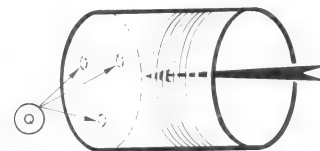

Figure 4.2.9c
- Unscrew 3 screws Q (inside coil, figure 4.2.9c)